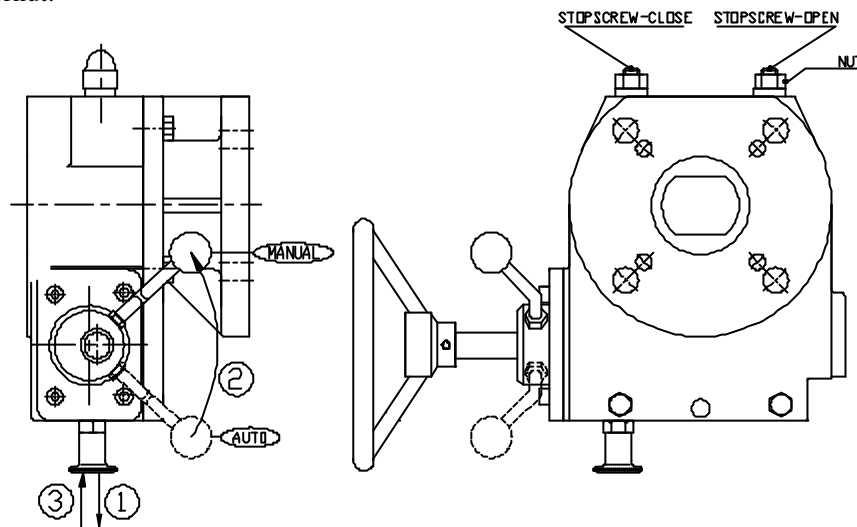
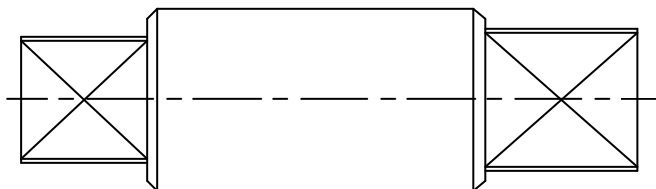

Figure 3 : ILG/D gearbox stopscrew adjustment
Figure 4 : Driveshaft ILG/D
2. Put the gearbox in the manual-mode by turning the handle 90 degrees counter clockwise (see 'operating' and/or figure 4: 1->2->3)
5. Open the valve by turning the handwheel counter-clockwise. When the fully open position can not be achieved, loosen the stopscrew-open (see figure 3). Continue turning the handwheel until the valve is fully open.
8. Pull the knob outwards (1) and turn the handle (clockwise) until knob falls back into its locked-position (3).
- b. position the driveshaft (see figure 4) in top of the gearbox.